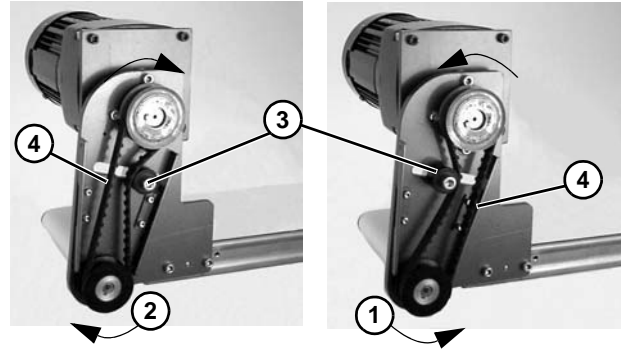

Figure 14
9. Depending on direction of conveyor belt travel (1 or 2 of Figure 14), position belt tensioner (Figure 14, item 3) as shown. Tension belt to obtain 0.125" (3 mm) deflection for 1.0 lb (456 grams) of force at belt mid-point (Figure 14, item 4). Tighten tensioner screw to 103 in-lb (12 N-m).
3. Depending on direction of conveyor belt travel (1 or 2 of **Figure 14**), position belt tensioner (**Figure 14, item 3**) as shown. Tension belt to obtain 0.125" (3 mm) deflection for 1.0 lb (456 grams) of force at belt mid-point (**Figure 14, item 4**). Tighten tensioner screw to 103 in-lb (12 N-m).
- Depending on conveyor belt travel (direction 1 or 2), locate timing belt tensioner (**Figure 14, item 3**) as shown. Tension timing belt to obtain 0.125" (3 mm) deflection for 1.0 lb (456 grams) of force at timing belt mid-point (**Figure 14, item 4**). Tighten tensioner screw to 103 in-lb (12 N-m).